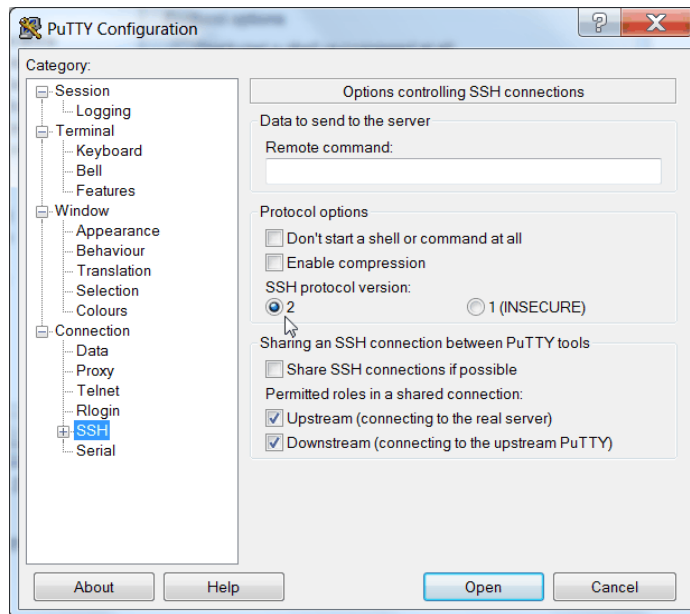

Figure A-14 SSH protocol version 2
2. In the Category pane, on the left side of the PuTTY Configuration window (Figure A-14), click **Connection** → **SSH** to open the PuTTY Configuration window Options controlling SSH connections view.